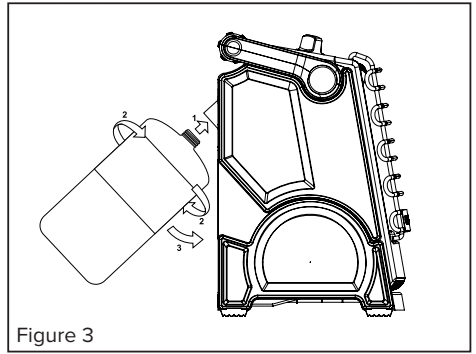

Figure 3
- Tilt the regulator outward from the back and screw the 1-lb. disposable LP-gas cylinder clockwise (from bottom) into unit until hand-tight; see Figure 3. DO NOT use thread sealant on this connection.